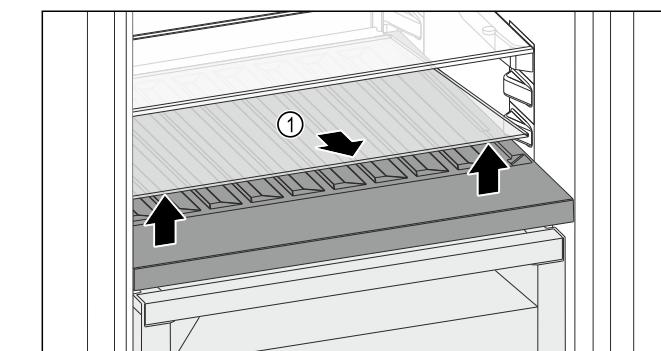

Fig. 140
- Lift the glass shelf Fig. 140 (1) at the front and remove.
- Store the glass shelf Fig. 140 (1) in a safe place outside the appliance.